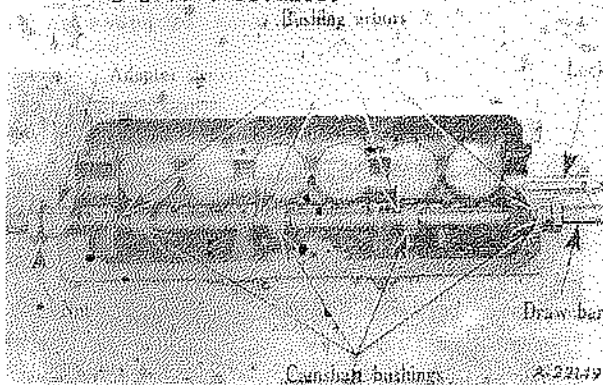

Fig. 38 - Camshaft bushing installation. Showing special tool in position
1. If camshaft bearing replacement is necessary remove and install new bushings with special camshaft bearing installation tool (Fig. 38). No reaming is required.